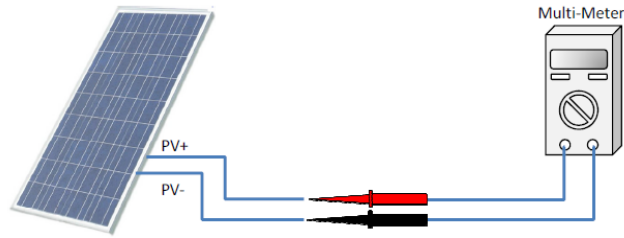

Figure 4-28 Polarity Check
- Ensure correct polarity of the PV Strings before terminating the DC source circuits. Referring to Figure 4-28, the wiring from the PV string pairs must be checked according to the following steps: